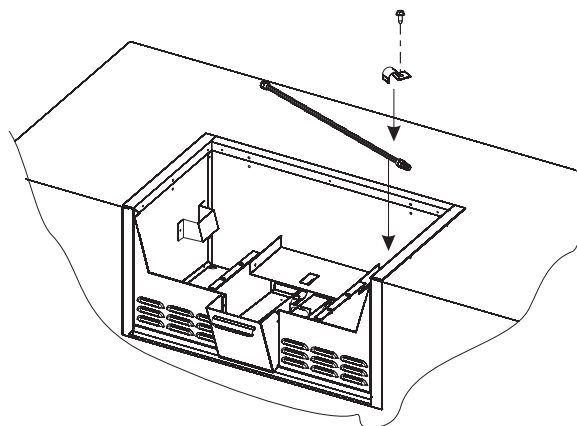

Figure 4
4. The flex line may be routed through either side. Attach the flex line to the bottom of the BHAX2 surround using the flex line bracket and screw. See Figure 4.